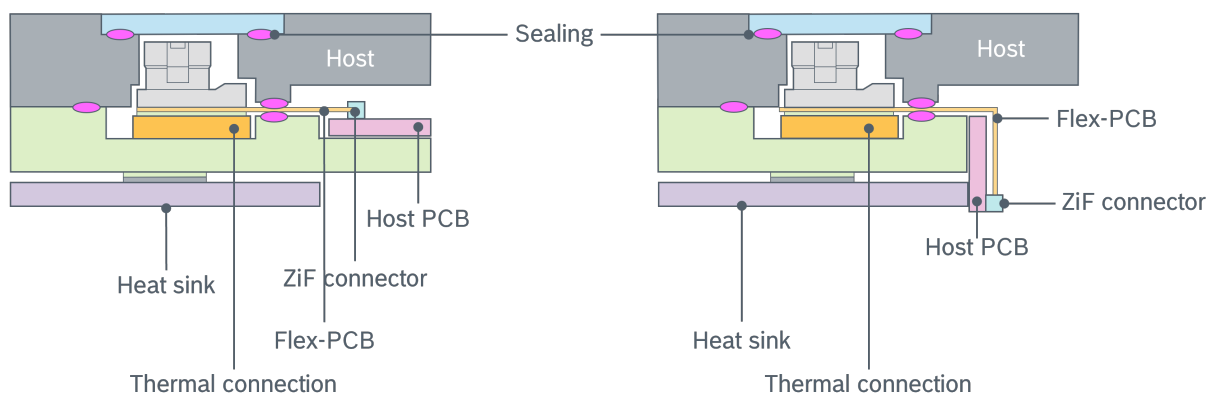

Figure 16: Placement of PCB for the sensor position
- Flexibility to place the PCB for the sensor position (side by side, stacked, etc. – see Figure 16).